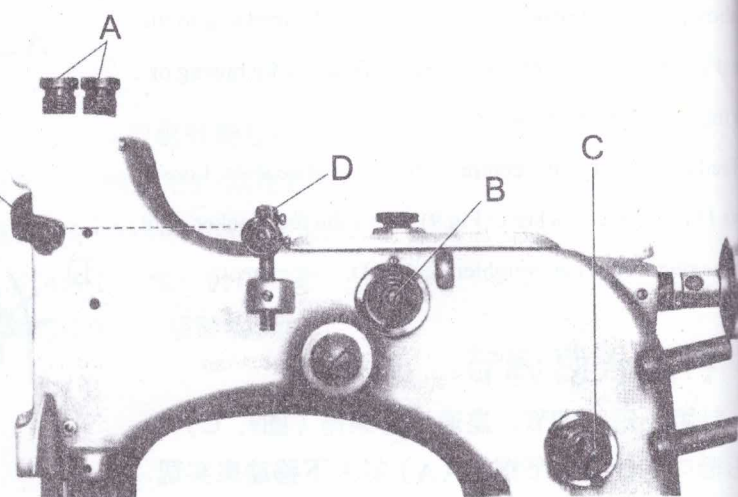

图 10
压脚压力的大小，取决于缝料的厚度，缝薄料时须减少压力；反之，则增大压力。当缝料推送顺畅，针迹均匀时切勿再增大压力，以缓减机件磨损。调节压力时旋进两只调压螺套（图10，A）增大压力，旋出则减少压力。
缝线张力由夹线器（图10，B、C）
Thread tension is adjusted by thread tension assembly (B.,C. Fig.10), tension of upper thread (B) is generally stronger than that of lower thread (C). Turn in thread tensioner nut (B., C) to increase the tension, turn it out to decrease the tension. if the stitch is still not good, the height of thread adjusting bar (D) should be adjusted. height of the thread adjusting bar (D) is at the same level with the thread eye of the needle bar connection at highest position.